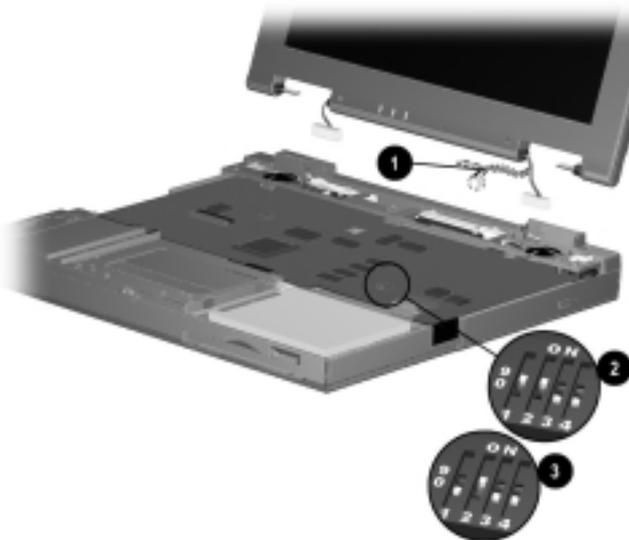

Figure 5-28. Setting the Display DIP Switches
2. Locate the part number label on the display microphone cable ❶ (Figure 5-28).
3. Part number “441668500001/176038-001” corresponds to the 12.1-inch, TFT display assembly. If this is the part number on the label, make sure the display DIP switch on the system board is set according to setting ❷.
4. Part number “441668500002/176037-001” corresponds to the 12.1-inch, HPA display assembly. If this is the part number on the label, make sure the display DIP switch on the system board is set according to setting ❸.